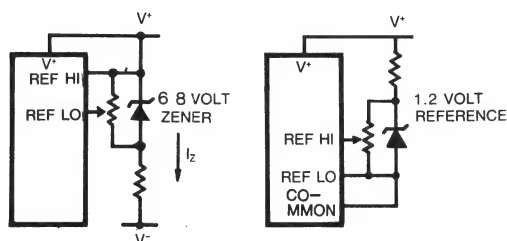

Fig. 13. Using an External Reference
The limitations of the on-chip reference should also be recognized, however. The reference temperature coefficient (TC) can cause some degradation in performance. Temperature changes of $2^{\circ}C$ to $8^{\circ}C$, typical for instruments, can give a scale factor error of a count or more. Also, the COMMON voltage will have a poor voltage coefficient when the total supply voltage is less than that which will cause the zener to regulate ($<7V$). These problems are eliminated if an external reference is used, as shown in Figure 13.